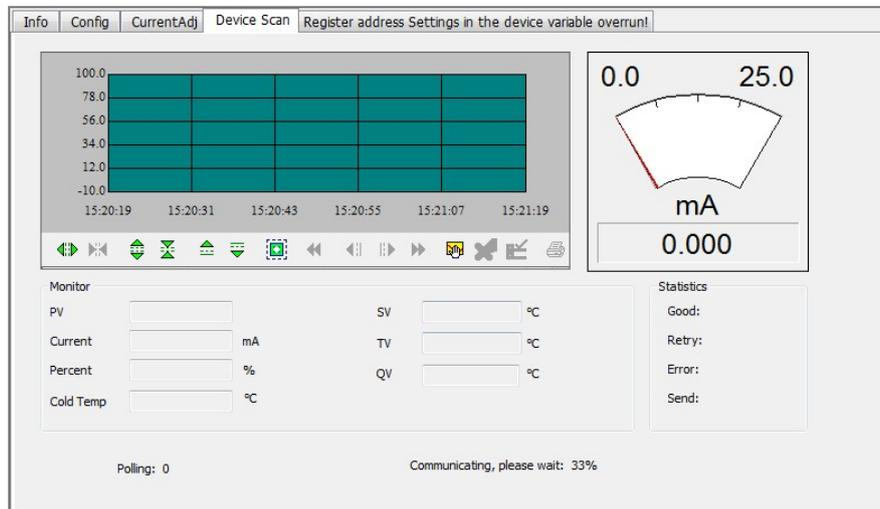

Figure 5.23 Variable Monitoring tab
- (1) Left-click on an online device in the network view, and the right tab view displays the tabs associated with the device.
- (2) Click "variable Monitoring" in the right tab view, as shown in Figure 5.23.